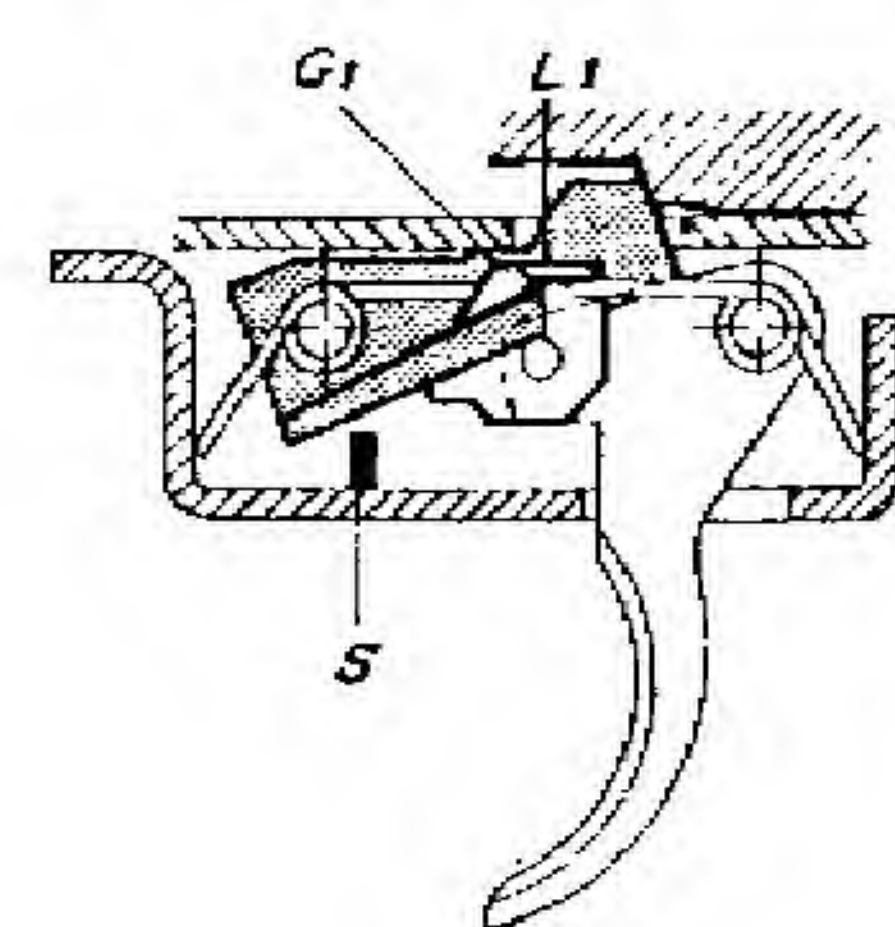

Fig. 16.
Continued pull on the trigger causes the intermediate lever to bring the sear to its depressed position (fig. 16); the breech-block is thus freed from the sear.
As the fore arm of the change lever (S) is out of action, the intermediate lever cannot pivot to the rear and the sear remains in its depressed position and is held there by the ramps of the intermediate lever resting on the shoulders (G 1) of the sear; the breech block continues its firing cycle so long as pressure is kept on the trigger (fig. 16).